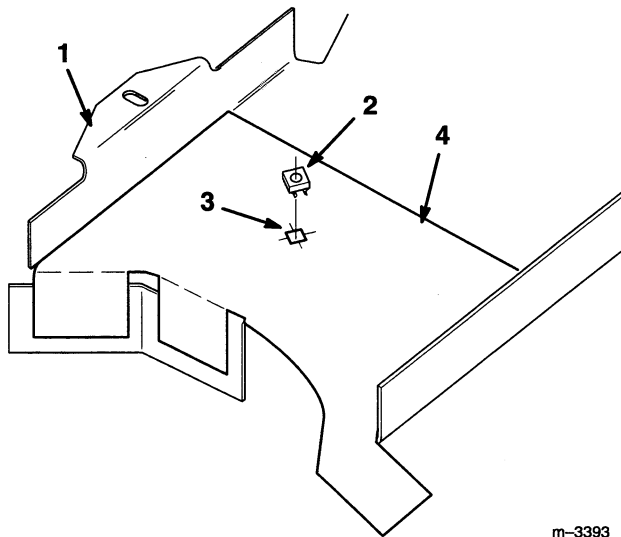

Figure 3
3. Fold the template tabs along the dotted lines, then tape the hole template onto the belt guard (Fig. 3).
4. Lay out, center-punch and drill a 5/16" hole in the center of the square hole as marked on the template (Fig. 3).
5. Use a file to open up the square hole as drawn on the template (Fig. 3).
6. Snap the retainer nut into the square hole in the belt guard from the back side of the guard (Fig. 3).